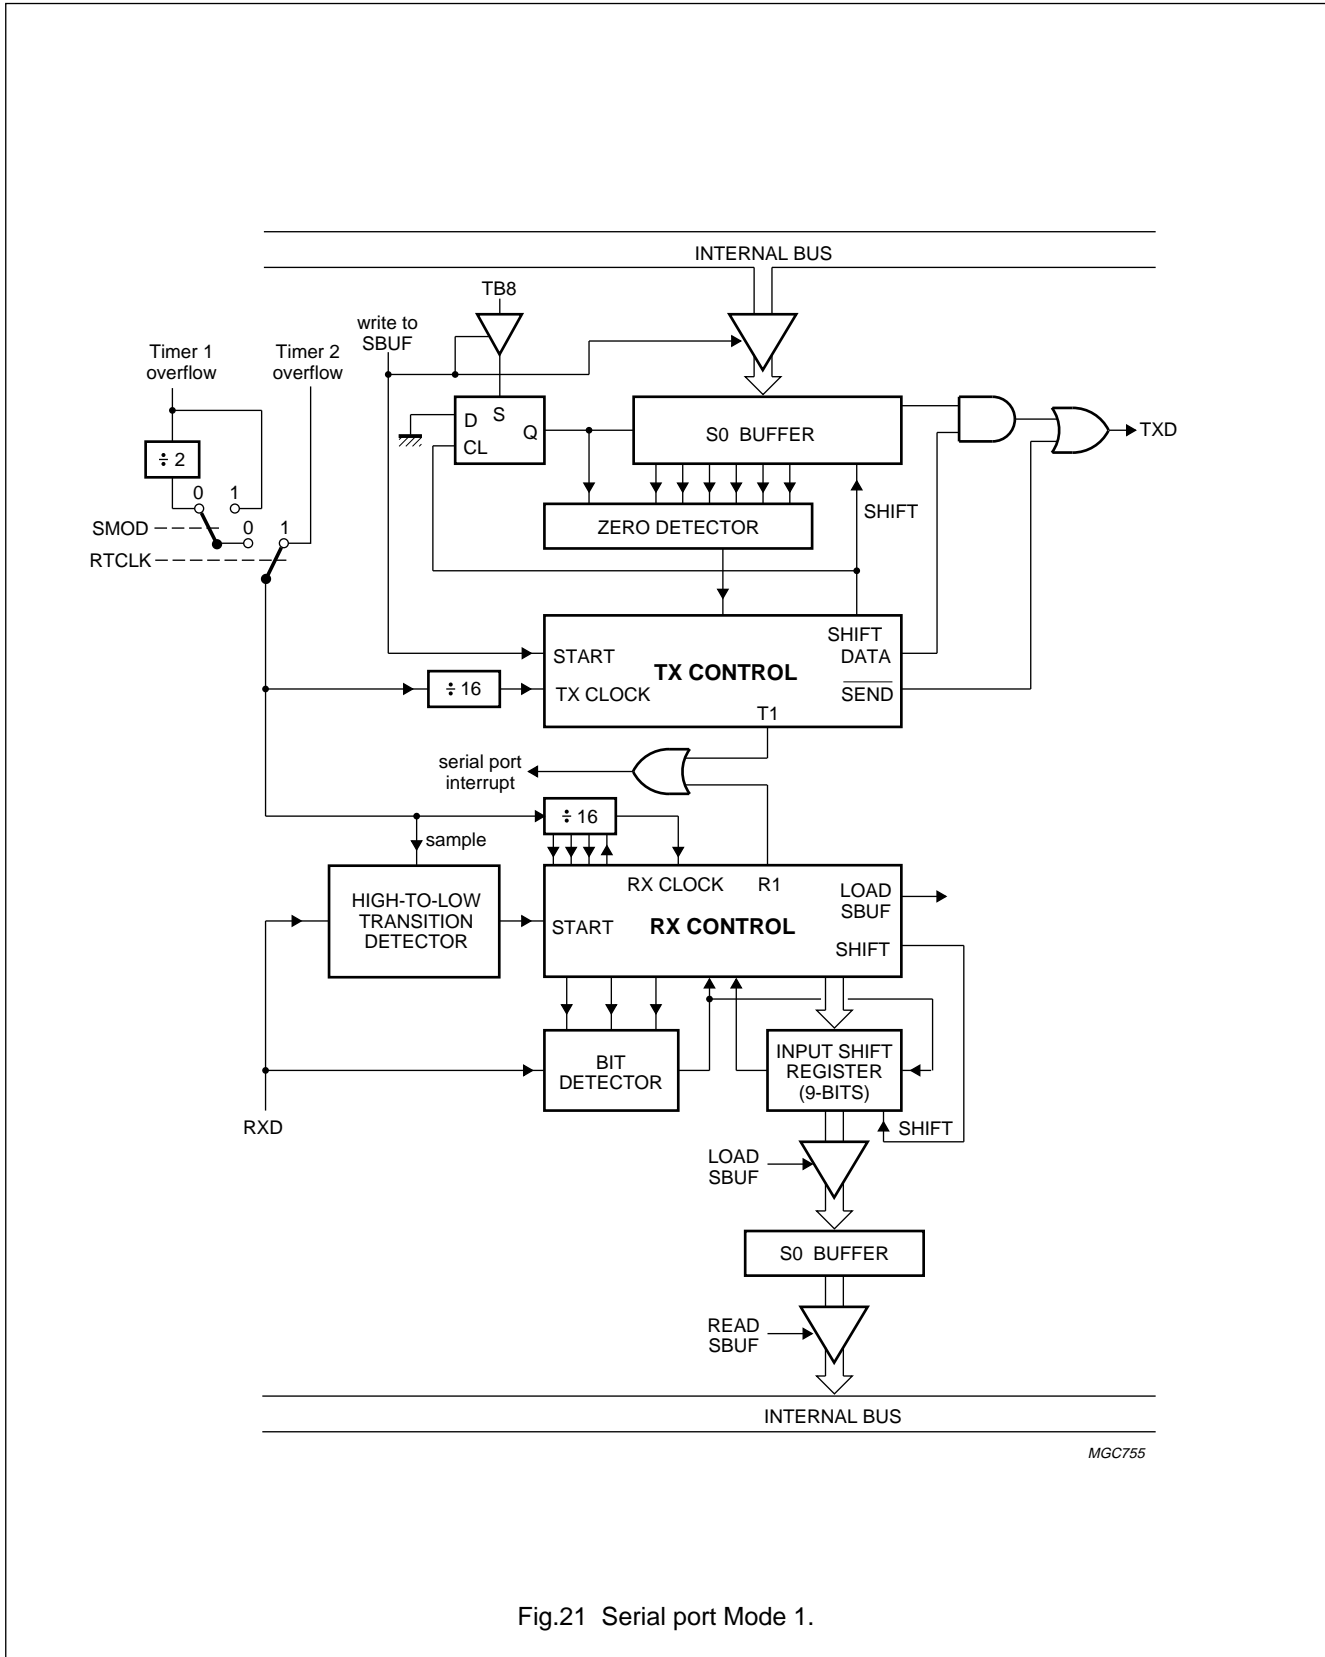

Fig.21 Serial port Mode 1.
- Mode 1 10 bits are transmitted (through TXD) or received (through RXD): a start bit (logic 0), 8 data bits (LSB first), and a stop bit (logic 1). On receive, the stop bit goes into RB8 in Special Function Register S0CON. The baud rate is variable. See Figs 21 and 22.